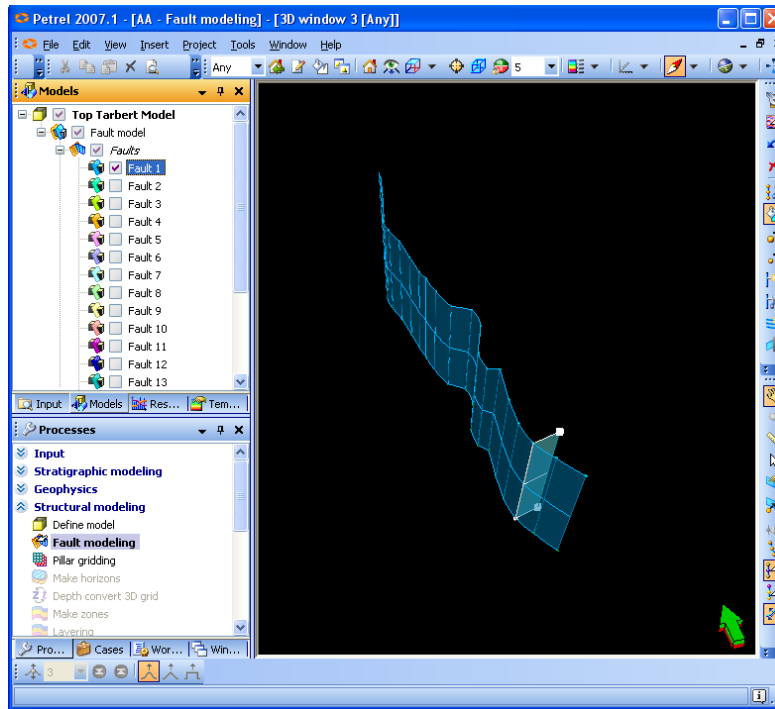

Fig. 11.20: A fault displayed in a 3D window after creating **Branched fault**
2. Click on either the **New Branched Fault** icon. As shown in Fig.11.20.